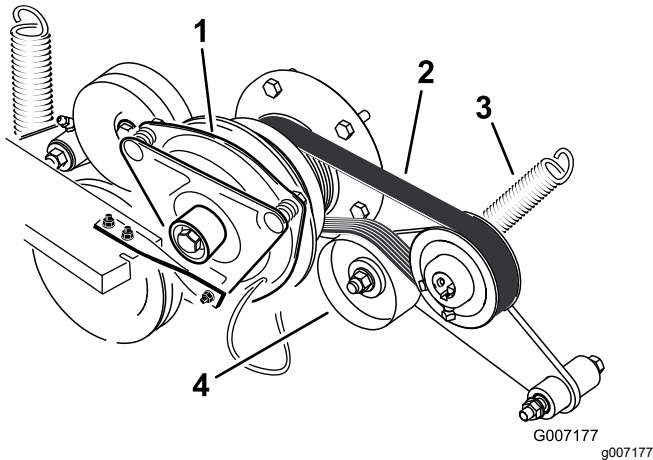

Figure 89
3. Remove the spring from the idler arm (Figure 89).
4. Install the new belt around the engine and hydraulic pump pulley (Figure 89).
6. Install the spring to the idler arm (Figure 89).